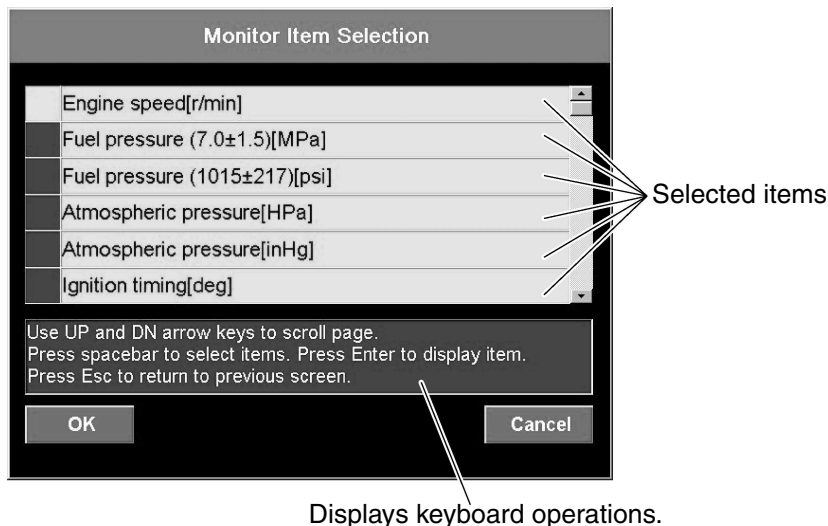

Fig. 27
3. Select an item by either clicking it or pressing the up or down arrow keys on your keyboard, and then press the space bar. (Fig. 27)
4. Click the **OK** button or press the Enter key on your keyboard. The **Engine monitor** window appears. To cancel the monitor, click the **Cancel** button or press the Esc key on your keyboard. (Fig. 27)